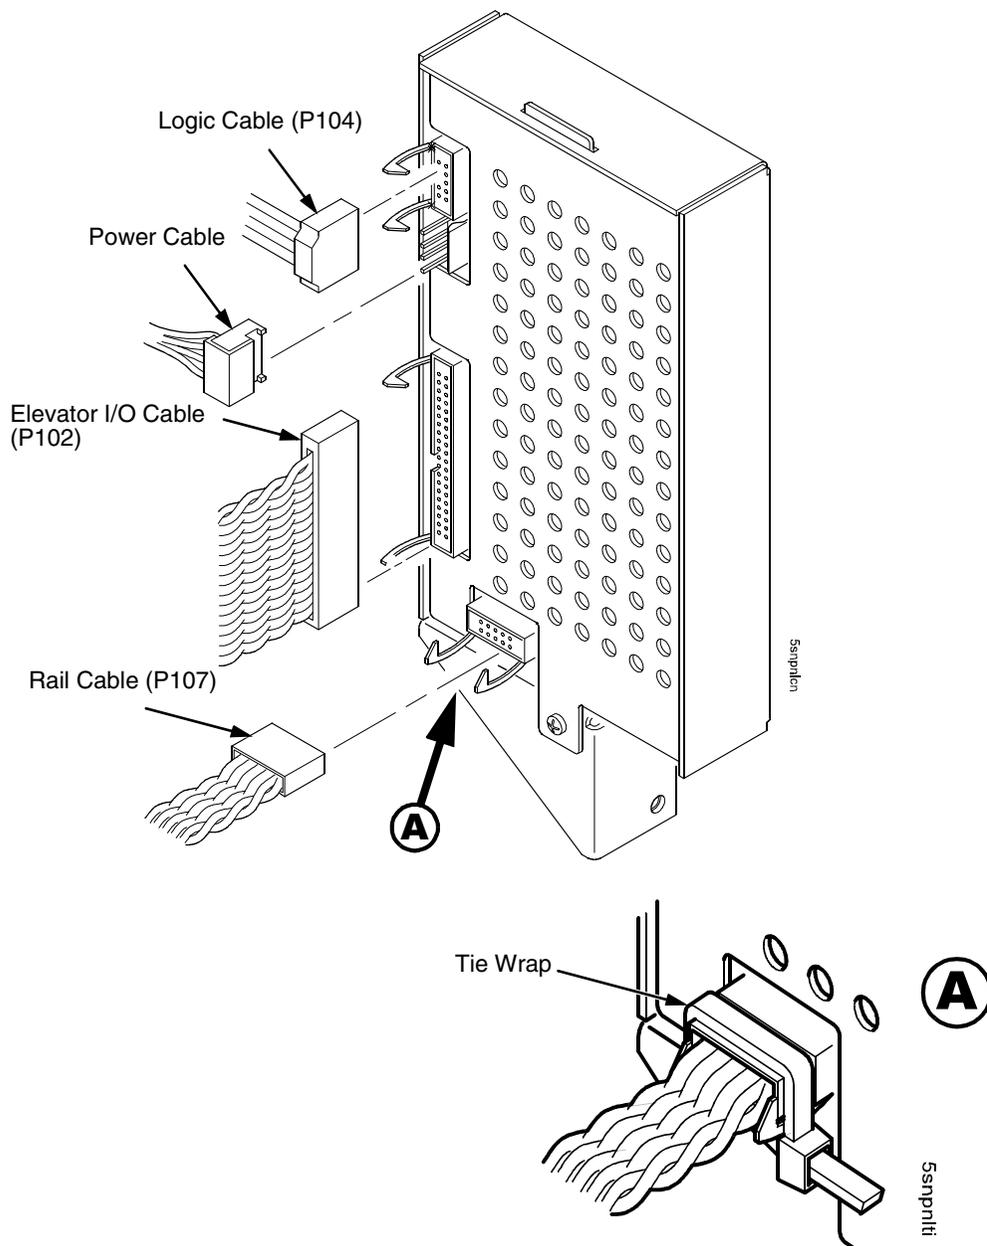

Figure 89. Stacker Control Panel Cables
23. Connect the stacker cables to the rear of the stacker control panel assembly and make sure the ejector levers close over the connectors. (Figure 89.)
24. Press rail cable connector P107 into the control panel until the ejectors are closed, then tie wrap the ejectors to the connector as shown in Figure 89, detail A.